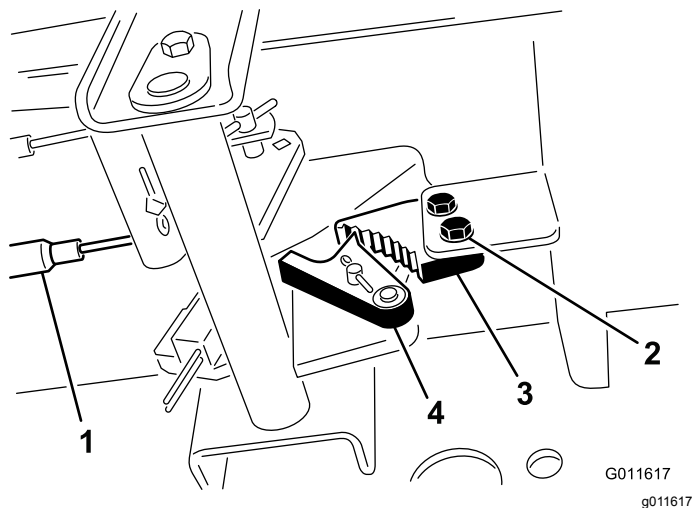

Figure 62
1. Loosen the 2 screws securing the parking-brake pawl to the frame (Figure 62).
2. Press the parking-brake pedal forward until the brake detent completely engages on the brake pawl (Figure 62).